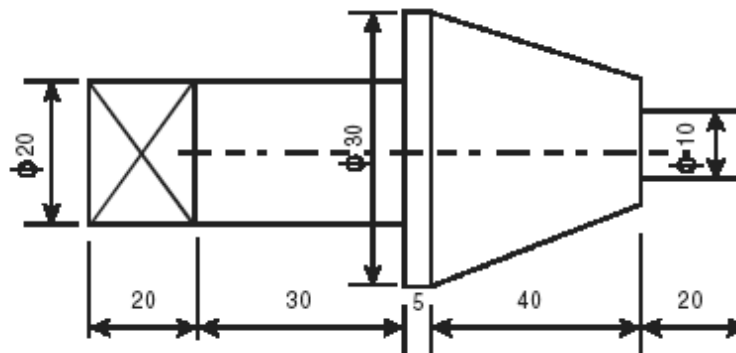

Figure 11
- b) Estimate the weight and cost of the mild steel casting as shown in Figure 11. Assume density of steel as 7.85 gm/cc and steel cost as Rs.55/kg.